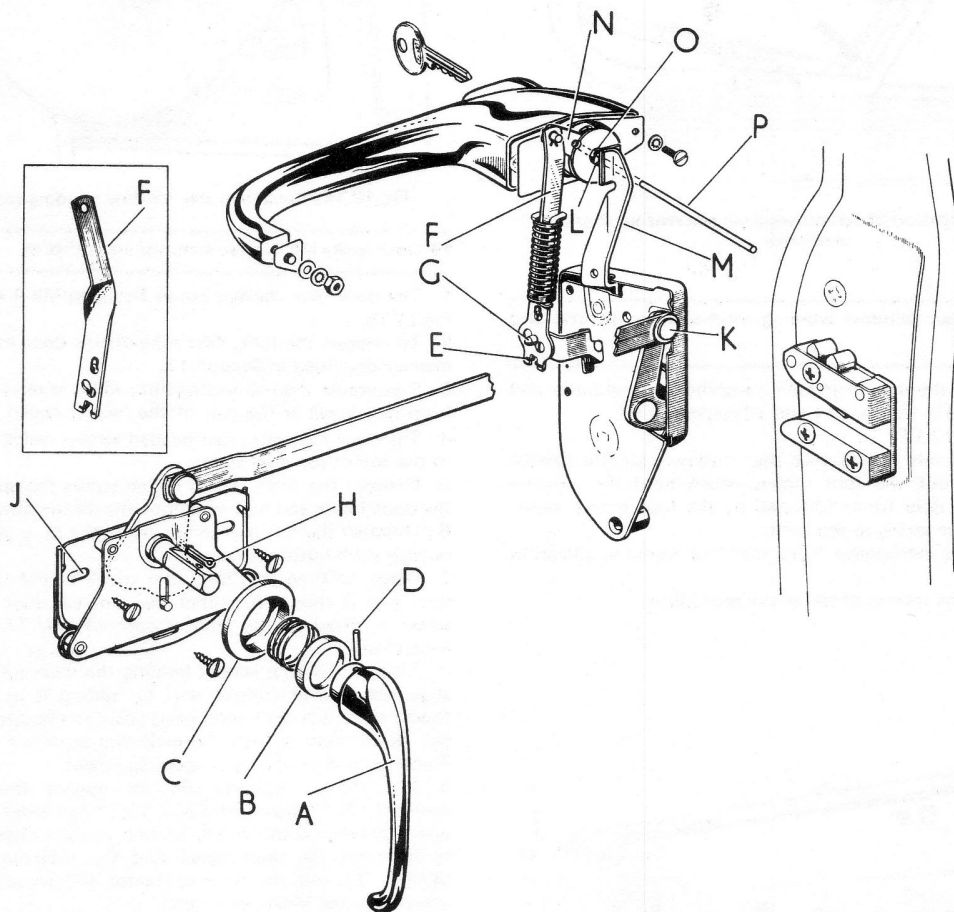

Fig.12.15. The Mk 1 door lock mechanism
- 1 The door lock mechanism as fitted to Mk 1 cars is shown at Fig.12.15.
- 7 When refitting the lock, first of all secure it loosely to the door and it should be noted that on rear door locks a shorter screw is fitted in the front elongated hole (J) of the remote control unit.
- 8 Tighten the four screws holding the lock unit first and then align the remote control unit by sliding it as far as possible towards the lock unit and in this position the operating lever (K) will be in contact with the lock case as shown in the drawing. Tighten down on the three securing screws.
- 9 The plunger housings on the outside door handles are stamped "N.S" (near side) and "O.S" (off side) and the appropriate handle, with its two seating washers, should be held in position on the door panel and the clearance between the plunger (L) and the lock contactor (M) checked through the aperture in the inner door panel.
- 10 The clearance should be  $1/32$ " (0.8 mm) but before making any adjustment, turn the plunger operating lever (N) to the unlocked position and depress the push button.
- 11 With the push button depressed, release the locknut (O) and screw the plunger bolt (L) in or out as required and retighten the locknut before releasing the push button.